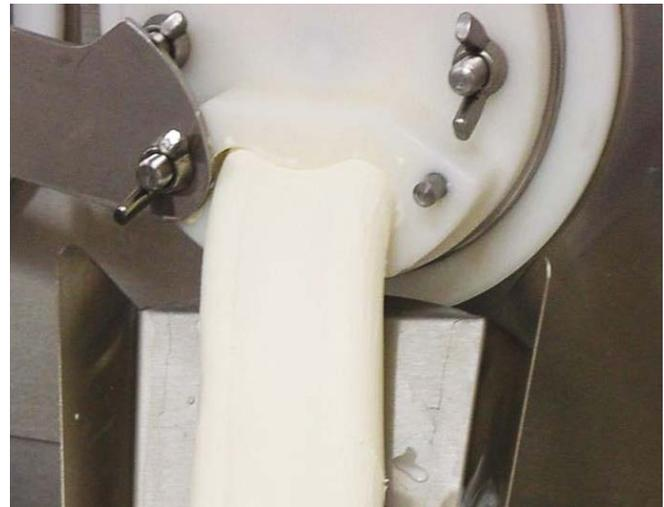

Figure 3-8 Proper Flow
- L. Adjust the flow control knob until the product flow fills the faceplate outlet and is at the desired texture (Fig. 3-8). The flow control knob setting is different for each type of product.